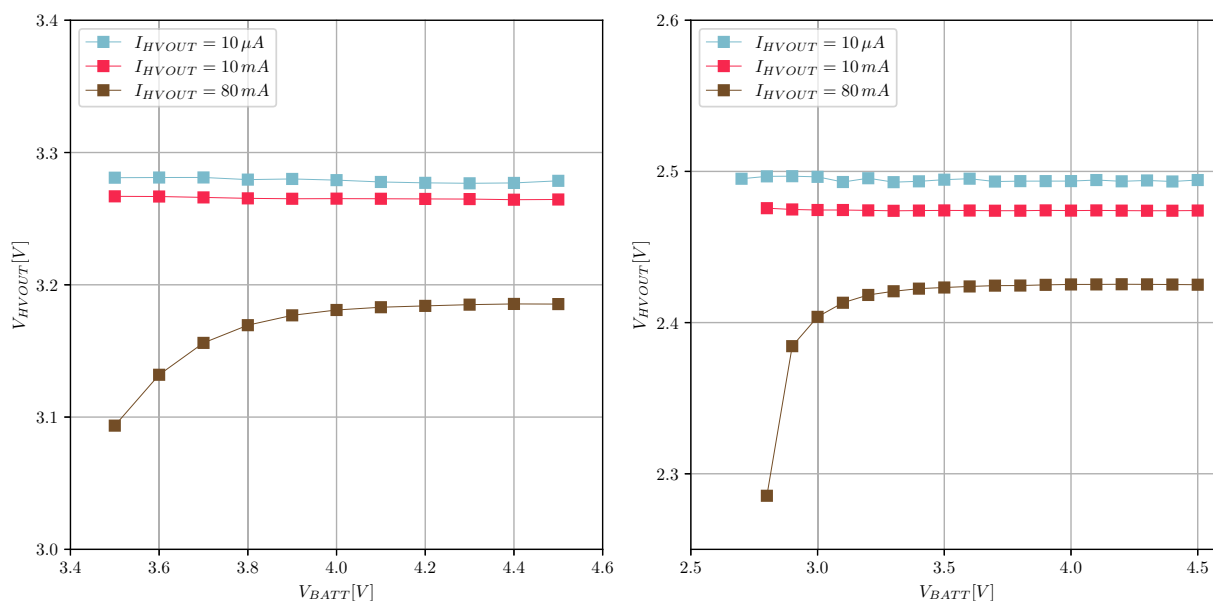
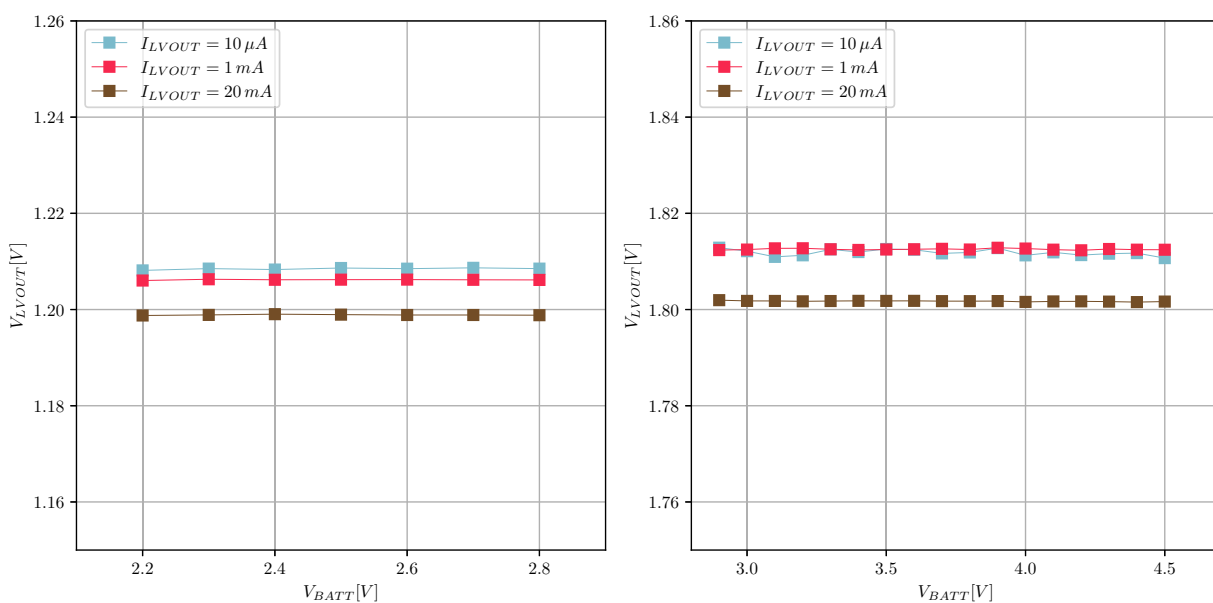

Figure 9: $HVOUT$ at 3.3 V and 2.5 V
Figure 10: $LVOUT$ at 1.2 V and 1.8 V
- **HVOUT/LVOUT**: measure the voltage (results shown on Figure 9 and Figure 10).